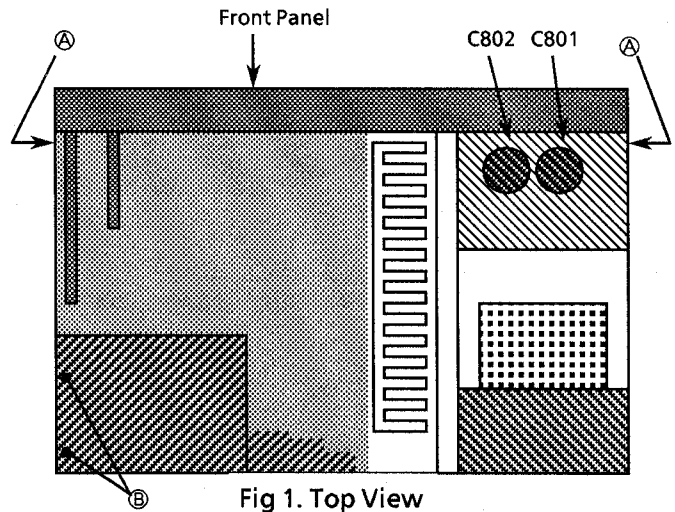
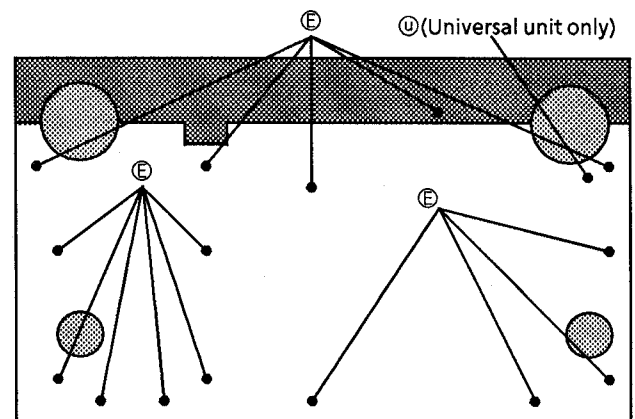

Fig 1. Top View
Fig 3. Bottom Cover
■ Removing the Bottom Plate (Fig.3)
1. Remove the 15 screws ⑤.
2. Remove the screw ⑥. (Universal unit only)
■ Removing the Front Panel (Fig.1,4)
1. Remove the 2 screws ① fastening both sides of the Front Panel, and the 4 screws ② fastening bottom of the Front Panel.
■ Removing the Tuner P.C. Board (Fig.1,2)
1. Remove the 6 screws ③, ④ and ⑤.